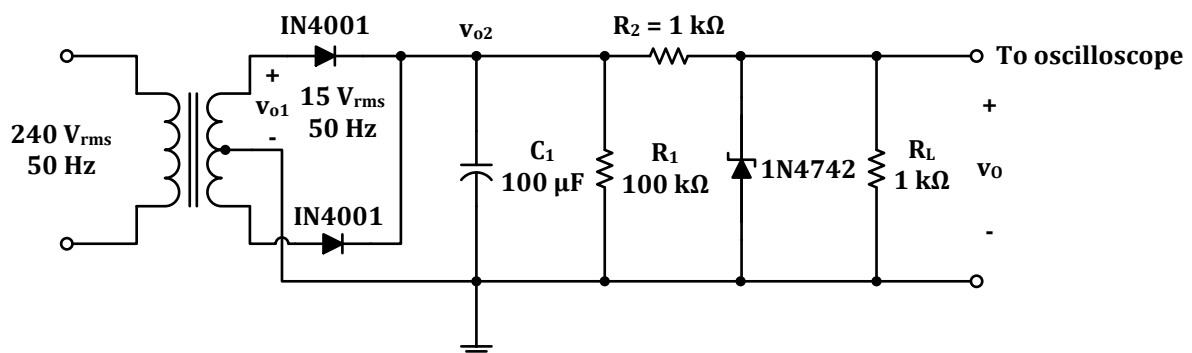

Figure 1.3
1. Connect the circuit in Figure 1.3.